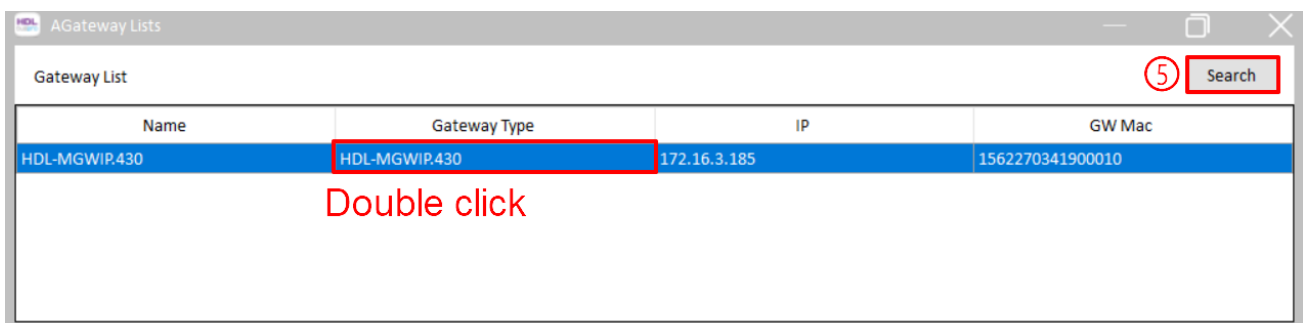

Figure 2-4 Remote Access Settings
- ⑤ As shown in Figure 2-4, click “Search”, then double click the column “Gateway Type” to open the configuration page.